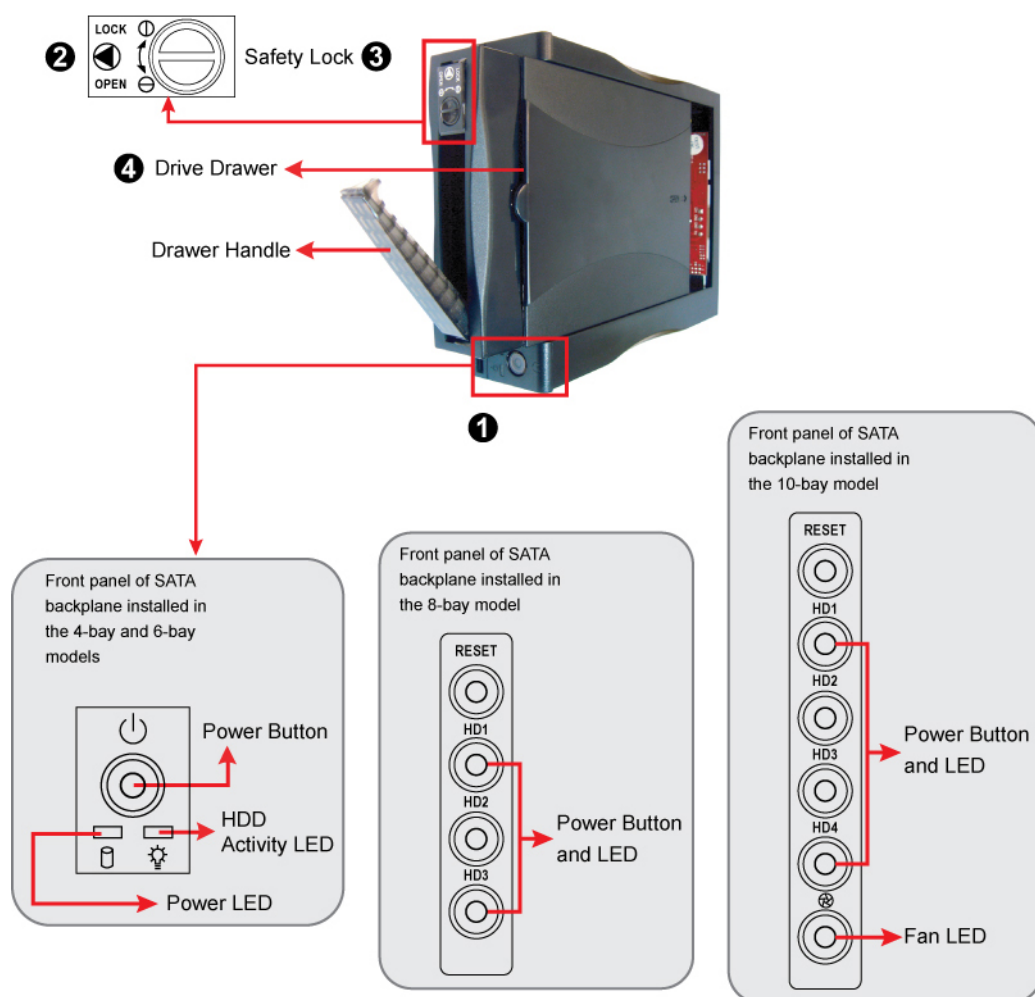

Figure 10
2. Turn the safety lock to the OPEN position (see Figure 10).